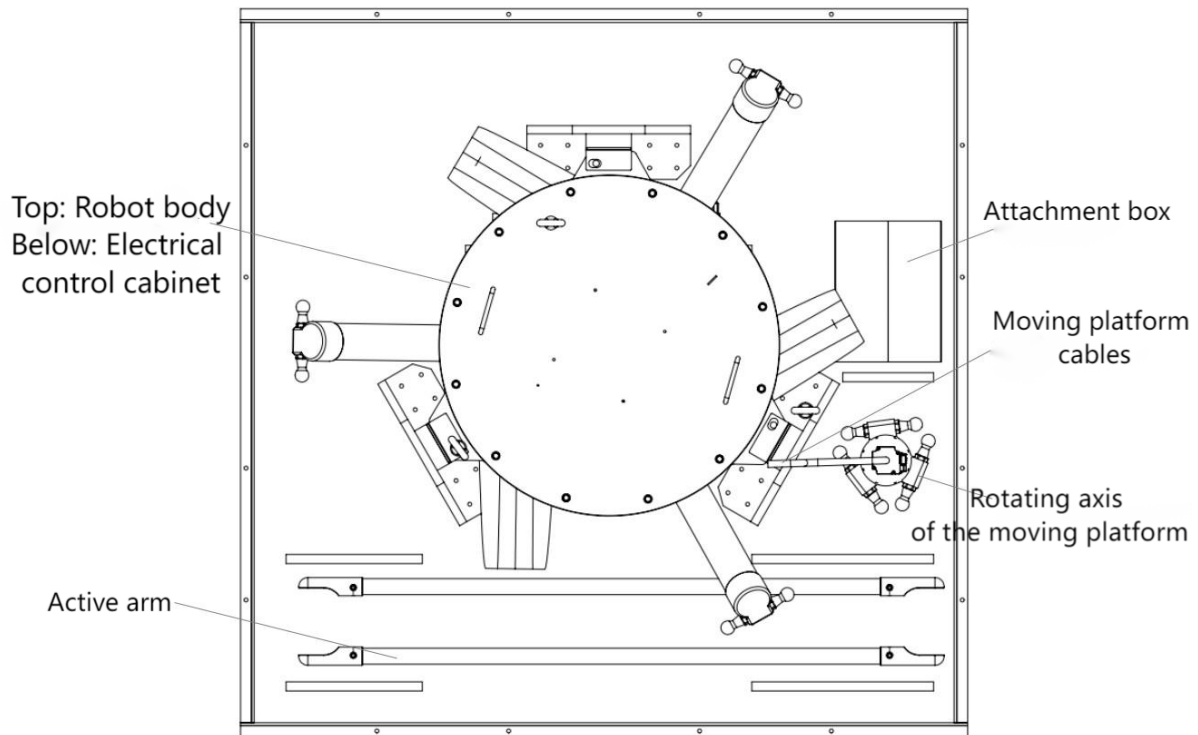

Figure 5-2 Items in the box
52. Figure 5-2 Items in the box